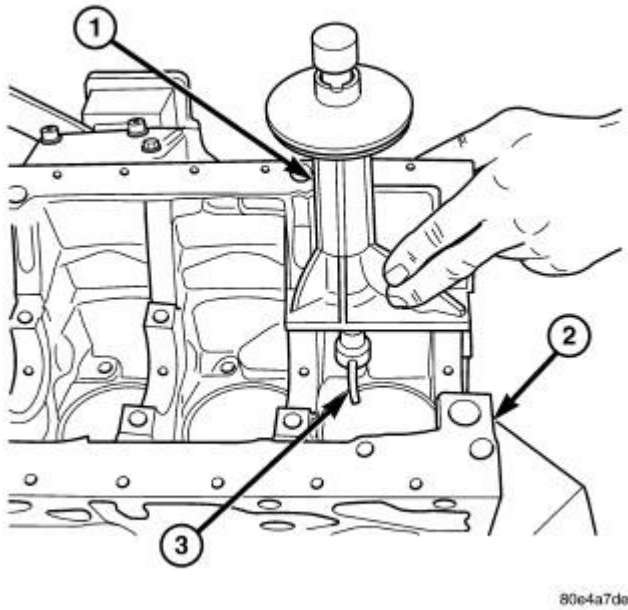

Fig. 195: Oil Jet Installation
1. Install oil jet (3) into Oil Jet Installer 8942 (1).
2. Align oil jet (3) in location in engine block (2).
3. Drive oil jets (3) into block (2) using Oil Jet Installer 8942 (1) until oil jet is fully seated into engine block. See **Fig. 195** .